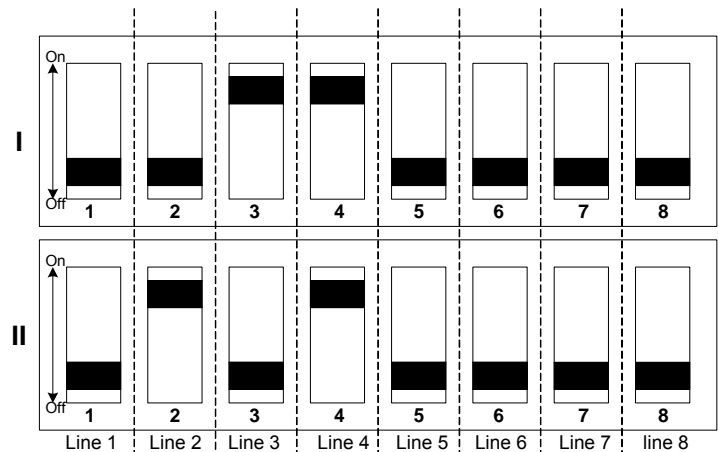

Fig. 2
Duty mode of lines is determined by a pair of switchers (pos.4, fig.1). Each line has a pair of switchers, whose position is determined by the operation mode ( fig . 2 )